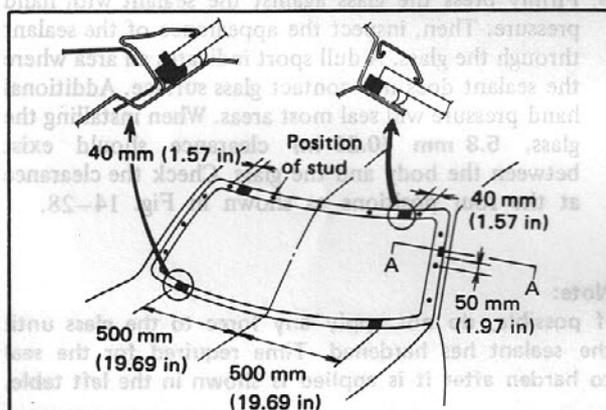

Fig. 14-23
4. Bond each spacer to the glass opening flange with bonding agent. Fig. 14-23 shows the directions and positions of each spacer. There are two kinds of spacer.